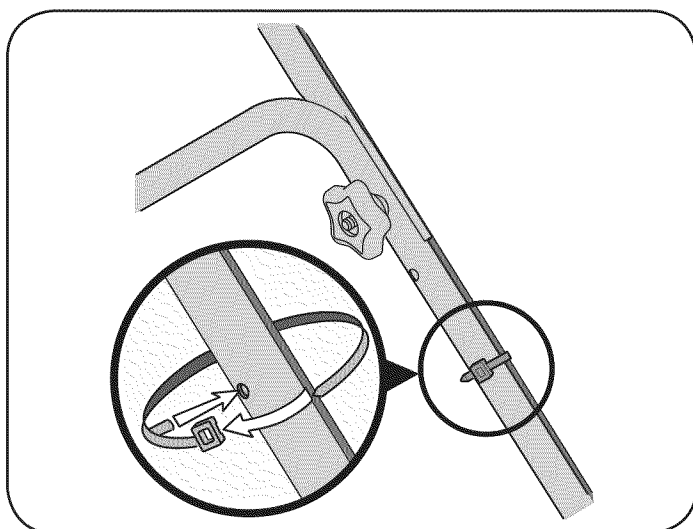

Figure 5
- Insert post on cable tie into hole provided on the lower handle. Pull cable tie tight and trim excess. See Figure 5.